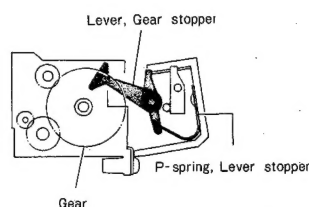

Fig. 19
- 6) Check to see if the P-spring (lever stopper) is properly set on the lever (gear stopper). (See figure 19)